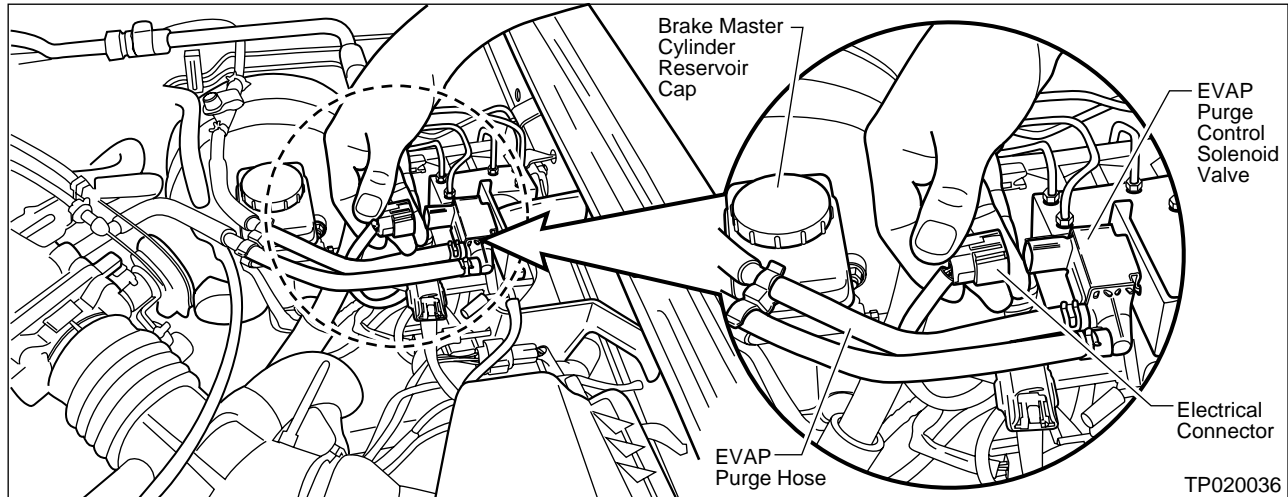

Figure 1
- 2) Disconnect the electrical connector to the EVAP Purge Volume Control Solenoid Valve (see Figure 1).
8. Reconnect the electrical connector to the EVAP Purge Volume Control Solenoid Valve (see Figure 1, page 2).